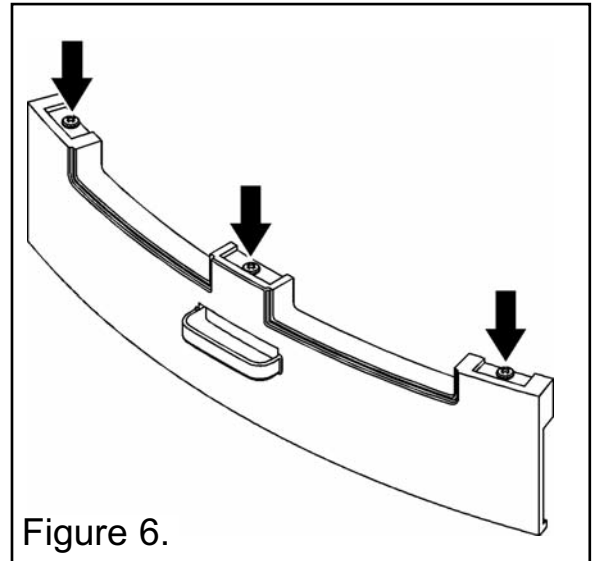

Figure 6.
- Locate the ash pan at the base of the fascia and check its alignment to the fascia sides. The base of the ash pan has three adjustable feet that can be screwed in and out should any adjustment be necessary (See figure 6).